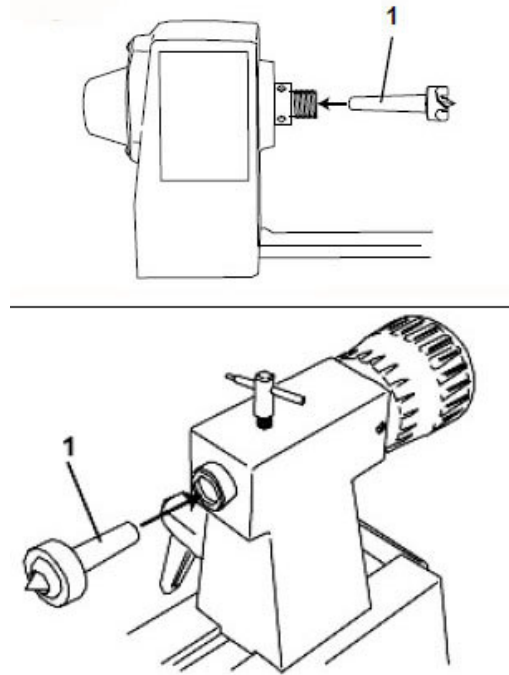

Fig. 7: Fitting the centre point
- Step 2: Insert the centre point (item 1, Fig. 7) through the drive plate and into the headstock mount (sleeve).